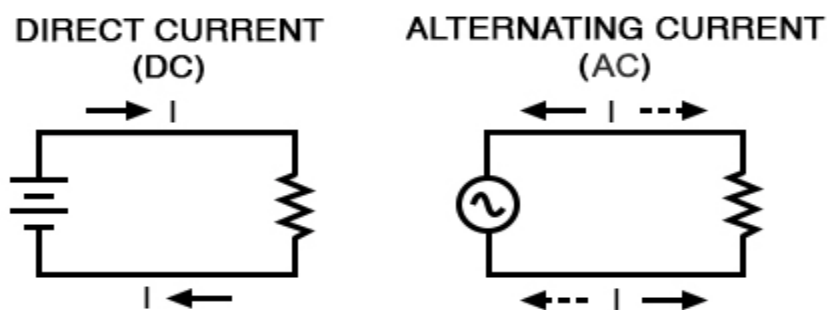

Figure 4: Illustration Diagram showing the difference between Alternating Current (AC) and Direct Current (DC)
3. What are the differences between alternating current (AC) and direct current (DC)?
The significant difference between the alternating current (AC) and the direct current (DC) is the periodically changes or reverses direction of the alternating current (AC) at regular intervals of time, in other word alternating current oscillates, while direct current (DC) flows only in one direction, always flowing from the positive to the negative. Basically alternating current (AC) is a wave type current while direct current (DC) flows steadily see illustration in figure 4.